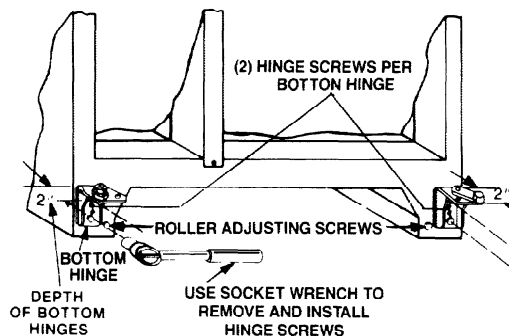

FIGURE 17
9. Mark around the lower hinge brackets. See Figure 17.